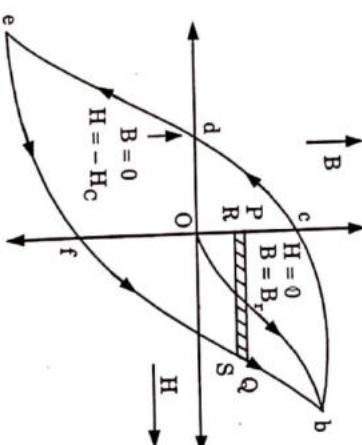

Fig. 3.2.1. Hysteresis loop.
- Plotting a graph between  $B$  and  $H$  for a ferromagnetic material is known as hysteresis curve or  $B$ - $H$  curve as shown in Fig. 3.2.1.
- Residual magnetism :** It is defined as the magnetic flux density which still persists in magnetic material even when the magnetising force is completely removed. In Fig. 3.2.1 on reducing the value of  $H$  from the saturation region to zero there remains a flux density  $B_r$  which is residual magnetism.
- Coercive force (field) :** It is defined as demagnetizing force which is necessary to neutralize completely the magnetism in an electromagnet when the value of magnetizing force becomes zero. In Fig. 3.2.1,  $H_c$  is required to reduce flux density to zero and is called coercive force.